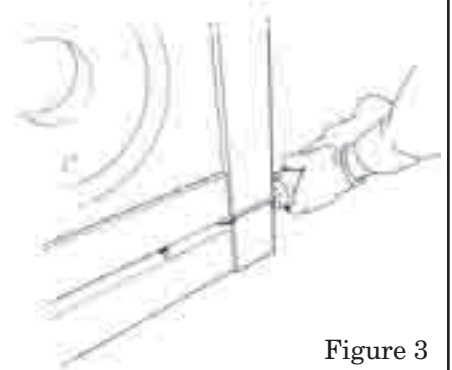

Figure 3
1. Move crated boiler as close as possible to the location to be installed. Uncrate the boiler using a saw to cut the four bottom corner posts even with the top of the pallet. The top of the crate can then be lifted off of the boiler. See Figures 3 and 4.